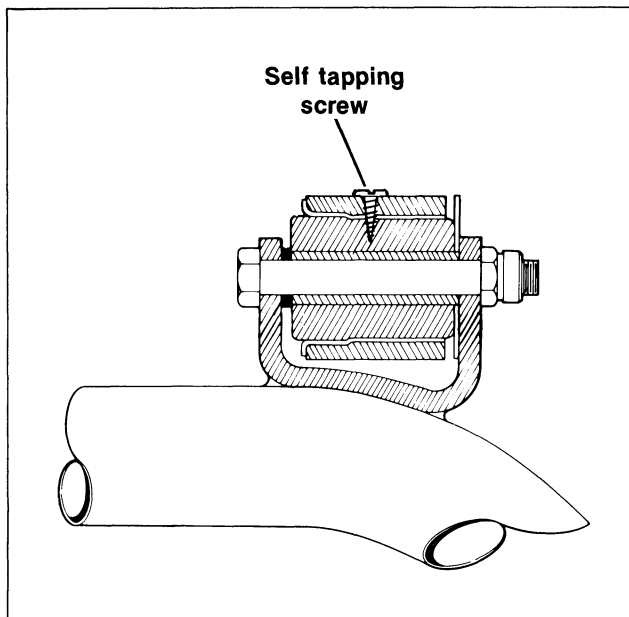

Figure 2-28. Fork Bushing Fix
5. See Figure 2-28. Using a No. 25 drill bit, drill a hole in the top center of the right side boss and bottom center of the left side boss. Insert a self tapping screw in each hole to hold the bushings in place.